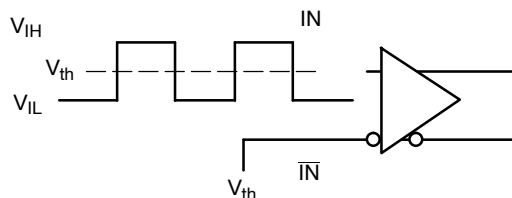

Figure 9. Differential Input Driven Single-Ended
**DIFFERENTIAL CLOCK INPUTS DRIVEN SINGLE-ENDED** (Note 7) (Figures 9 and 10)